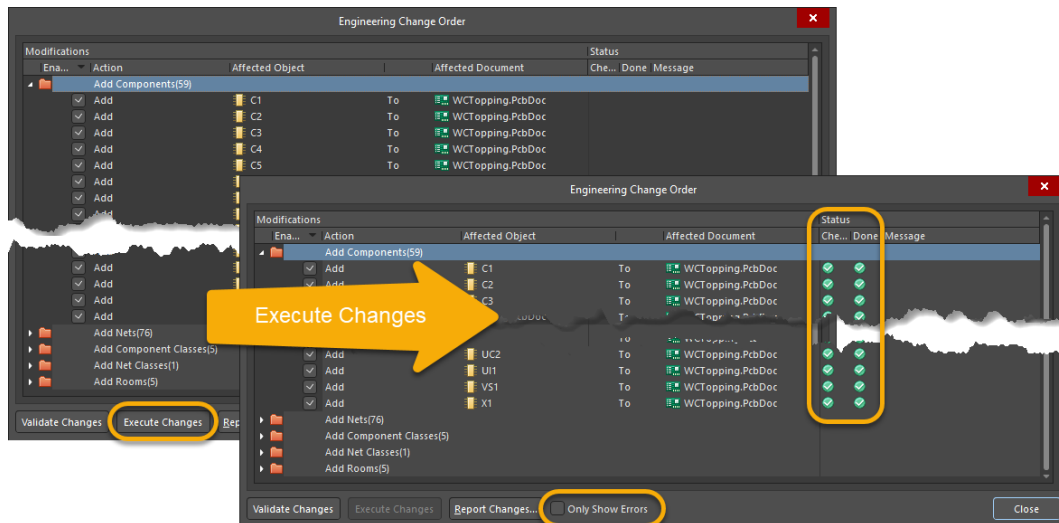

Figure 3. Engineering Change Order dialog
15. At the new dialog *Engineering Change Order* (ECO) select the **Execute Changes** button in the lower left of the dialog, as shown in Figure 3 below.